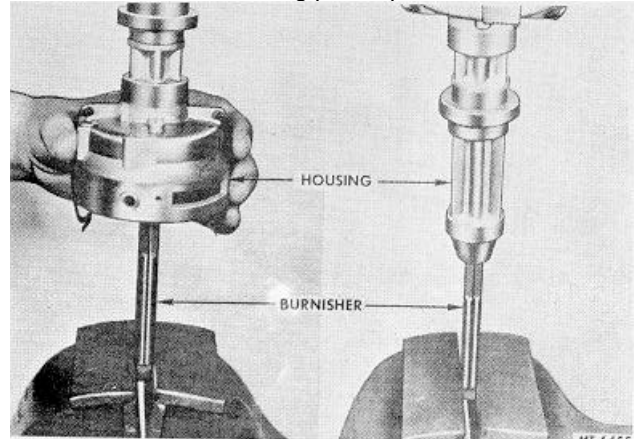

Fig. 44 Burnishing Upper and Lower Bushings Using Burnisher SE-1955-2
- b. Burnish upper bushing by placing distributor housing on burnisher carefully and rotating the housing clockwise using light pressure until tool passes through bushing (Fig. 44).